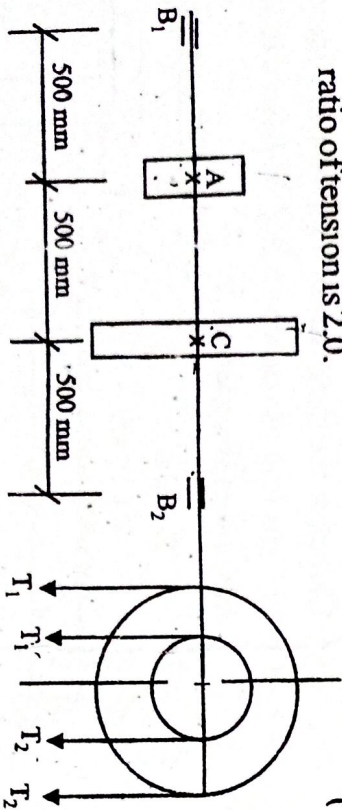

Fig 4
- (b) A bar of steel is of square section 60mm x 60mm x 180mm long. It is subjected to an axial compressive load of 300KN. The lateral strain is prevented by the application of uniform external pressure. If $\mu = 0.3$ and $E = 200 \text{ KN/mm}^2$. Find the change in the length of bar. (6)
6. A transmission shaft supported by two bearings B₁ and B₂ carry two pulleys A and C as shown in Fig. 4 20 KW pulley at 500rpm is transmitted from pulley A to C. The shaft is made of steel having allowable stress 100 N/mm^2 . Determine the diameter of the shaft on strength basis if the diameter of pulleys A and C are 200mm and 350mm respectively and the ratio of tension is 2.0. (12)